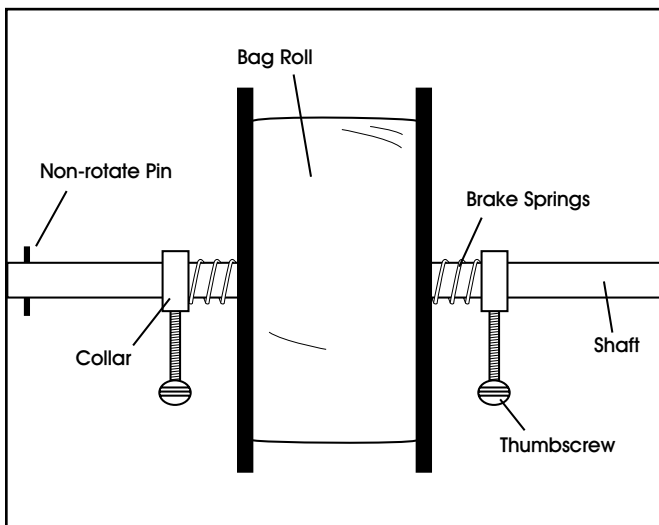

Figure 2: Core-Roll Assembly
2. To change rolls (See Figure 2): Remove core-roll shaft from the holding brackets by pulling it toward you and slightly upward in one fluid motion. Note that one end of the core-roll shaft has a non-rotation pin.